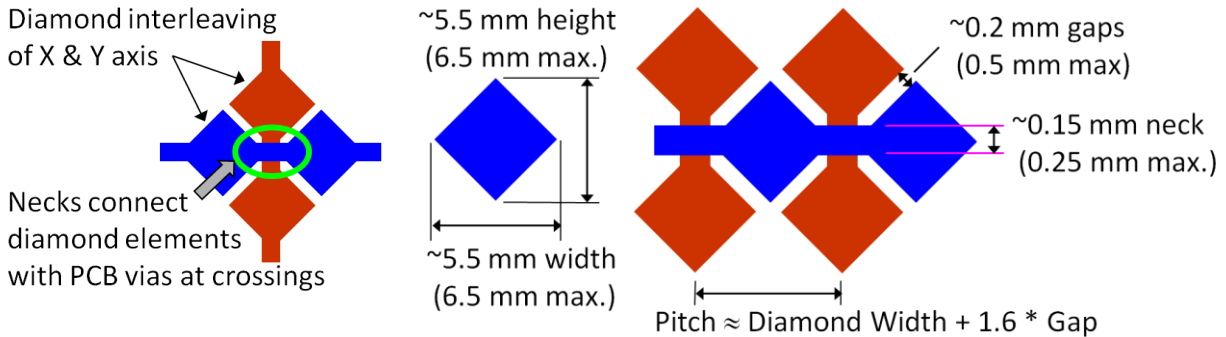

Figure 6 : Electrode Geometry
- Figure 6 : Electrode Geometry.....7*